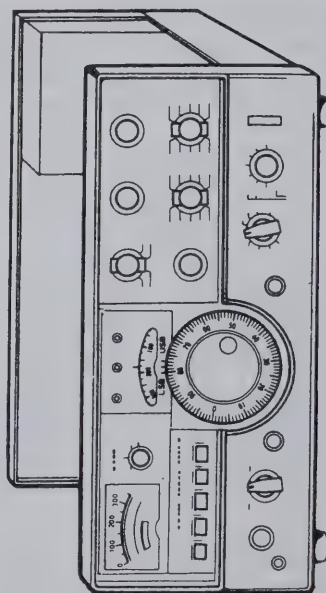

Fig. 29 Service Position for the TS-520S
■ SERVICE POSITION (See Figure 29)